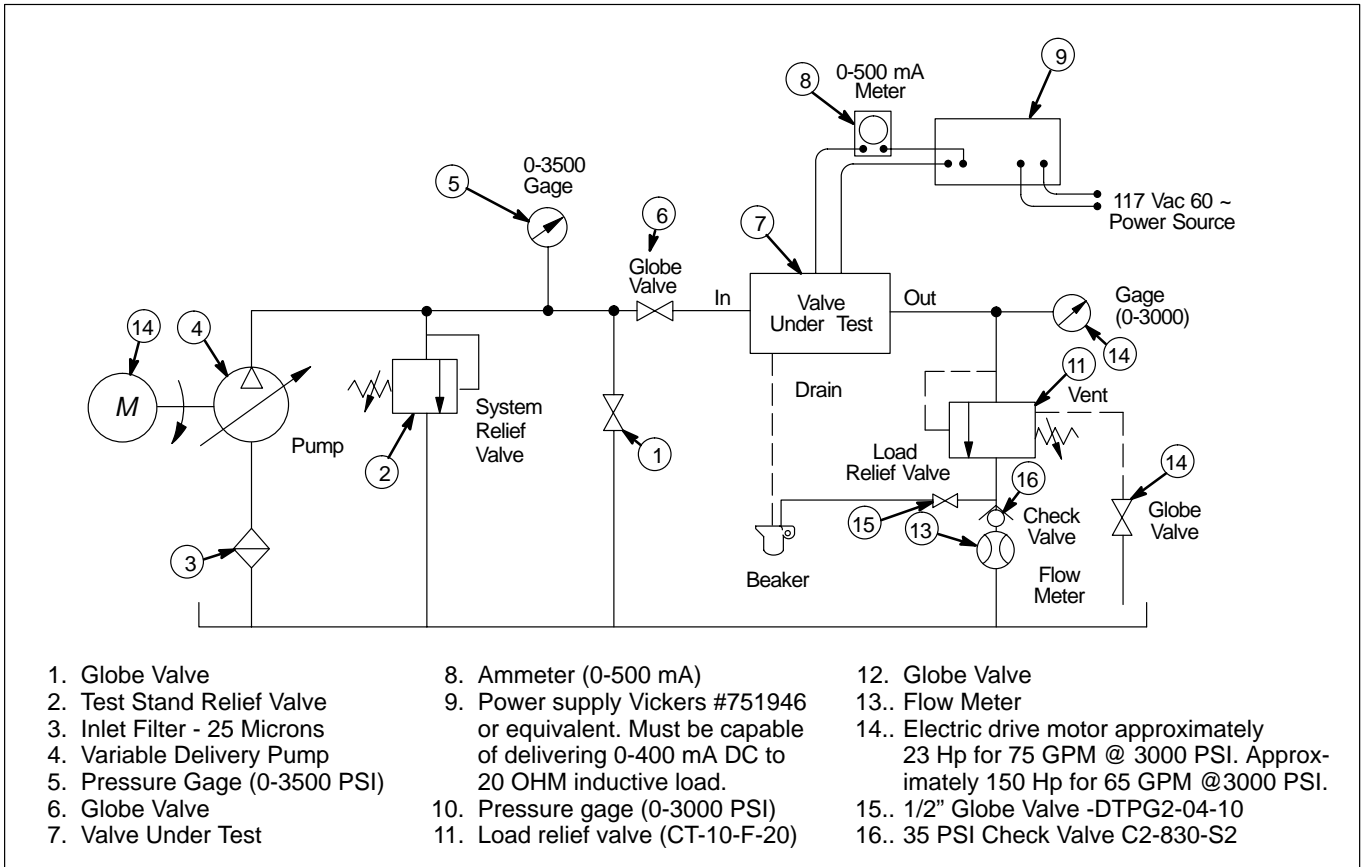

Figure 9. Test Stand for FGE-06 Flow Control Valve.
An adjustable current source from zero (0) to 400 milliamperes (mA) is required. Vickers EMCS-P-20 power supply part number 751946 is recommended. Installation information for the EMCS is shown on drawing 521555. (Power supply wiring connections are shown on Figure 9.)
A sample hydraulic and electrical circuit is shown in Figure 9. Modify an existing test stand or obtain necessary components to assemble the test circuit.
2. Connect test plate (FGM-06Y-10) to test stand and mount valve on test plate. See recommended circuit diagram (Figure 9).
3. Connect power supply (9, Figure 9) to valve as shown. The connections can be made without regard to polarity.
4. Set dither adjustment on power supply (9) to minimum.
5. Turn power supply (9) current control knob to zero (0).
6. Refer to sample test circuit Figure (9) during the following steps:
- a. Close globe valve (6).
- b. Close globe valve (1) and (15).
- c. Open globe valve (12). (Venting the load relief valve.)
g. Adjust the first stage subassembly for a 30-40 in3/minute flow from the outlet port. To measure this flow, use a beaker and open globe valve (15) shown in Figure 9. Close globe valve and cycle current from 0-400 mA three times. Recheck minimum flow to be 30-40 in3/minute. Continue adjustment and cycling until 30-40 in3/minute is obtained. Use a .094 hex key to turn adjustment screw (27, Figure 1 and 6). Replace screw and seal (1 & 2, Figure 1). Recheck drain flow to be 50-55 in3/minute.
1. Set current to 400 mA as read on the 0-500 mA meter (8). Record metered volume under the following conditions:
a. Adjust test stand relief valve (2, Figure 9) for inlet pressure shown: read gage (5, Figure 9).